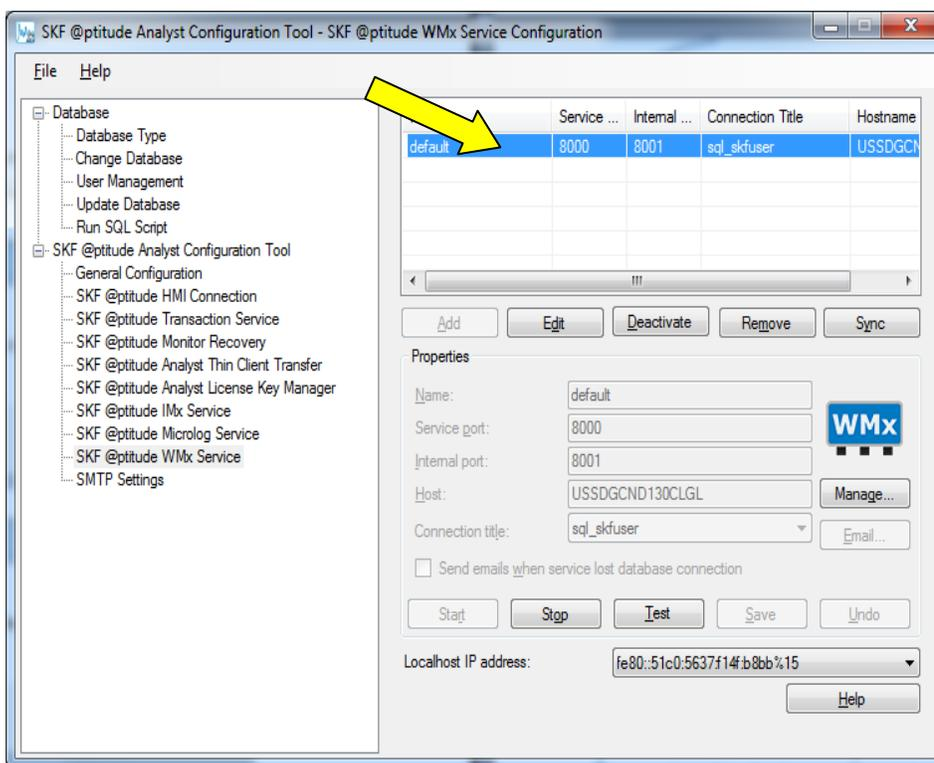

Figure 8. List of WMx Services
15. Once the service is created and started, it will be visible in the list. [Figure 8].